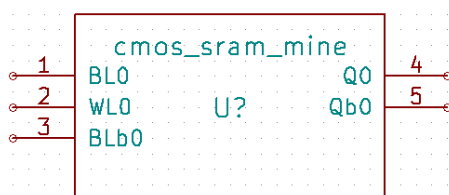

Fig.1. A 6T SRAM Cell Designed in NgVeri Tab
A conventional 6T SRAM cell consists of two inverters which are connected back-to-back. Fig. 1 shows the basic structure of a 6T SRAM memory cell [1]. The data which must be stored is latched in these two inverters. The process of storing a data is known as Write operation and the process of recovering the data is known as Read operation. Write operation is used for uploading the contents in a SRAM cell while Read operation is used for fetching the contents. The read operation is done with the help of sense circuits which sense BL and BLB data line before discharging it completely [4-5]. Basically, SRAM performs three operations which are Hold, Read and Write operations. ... Whenever the two access pass transistors of the word line (WL) are in OFF state, then the bit line and bit line bar (BL & BLB) are also in OFF condition, hence the memory cell is in hold state .